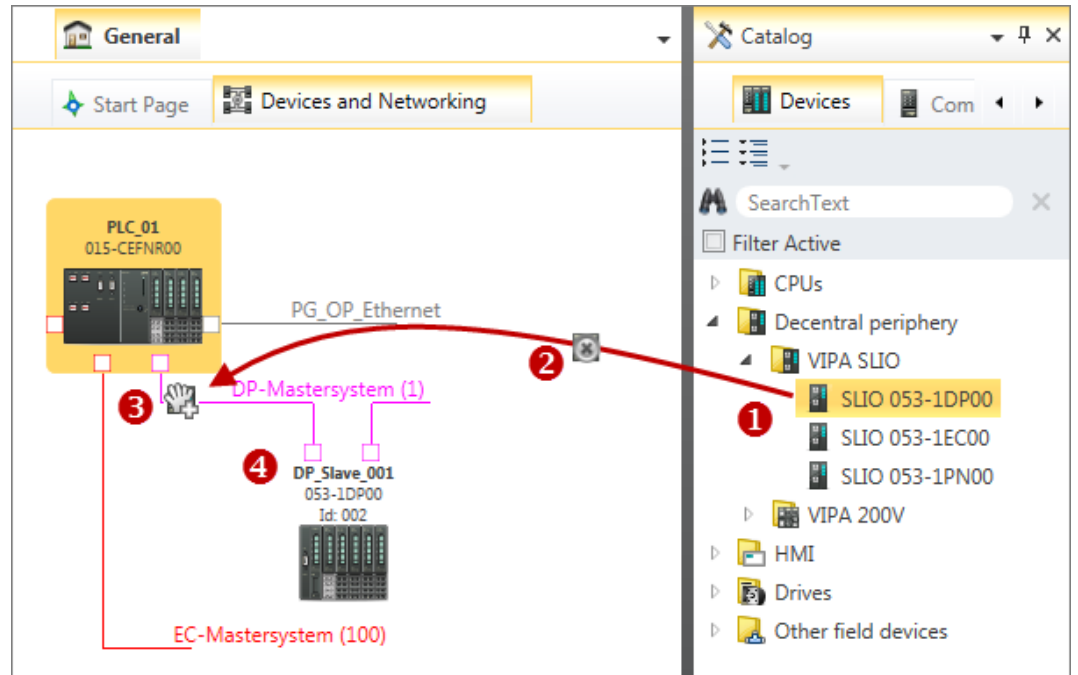

Fig. 60: Adding slave via "Catalog"
- **Catalog:** Drag the desired slave from the 'Device templates' register of the catalog ( ↪ *Chapter 4.9 'Catalog' on page 30*) to the connecting line of the bus system in the 'Devices and networking' editor. Fig. 60